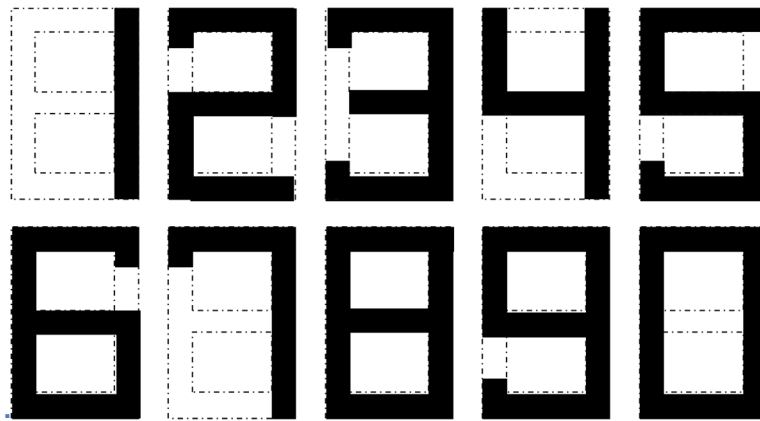

Figure 5 Topper Numbers
- c) Topper Numbers shall be constructed of Black 'Digital Eights' cut in the preferred style. Serifs shall be 10mm ± 3mm (Figure 5). The height of the numbers shall be 230mm.